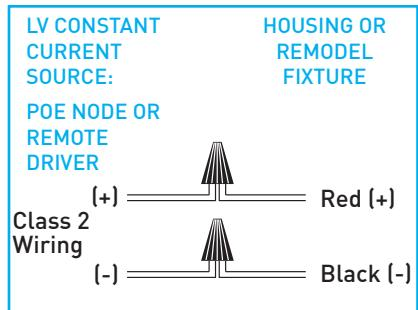

Fig. 21
Splice compartment / power supply assembly provides two (2) wires for connection to low voltage: Red (+) and Black (-)/*Fig. 21*.